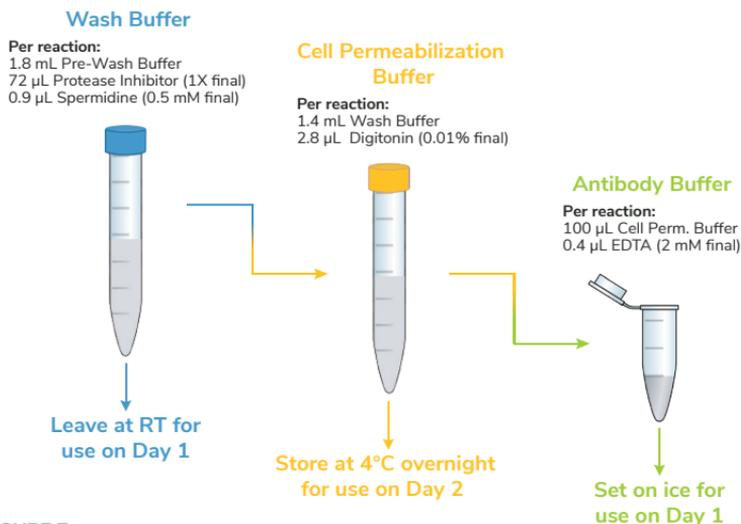

FIGURE 7
- * These buffers (Figure 7) are prepared FRESH on Day 1 of every CUT&RUN experiment.